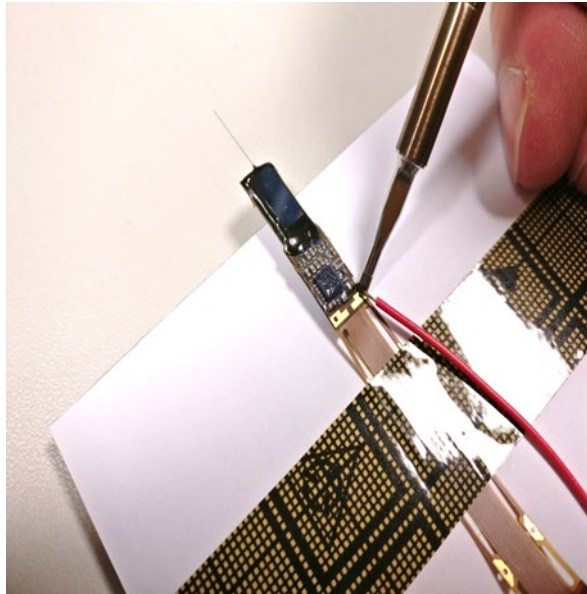

Figure 44: Placing the solder tip in the corner between wire and pad.
- Insert the wire through the hole in the solder pad. Place the solder iron at the corner between the pad and the GND/REF wire. (Figure 44)